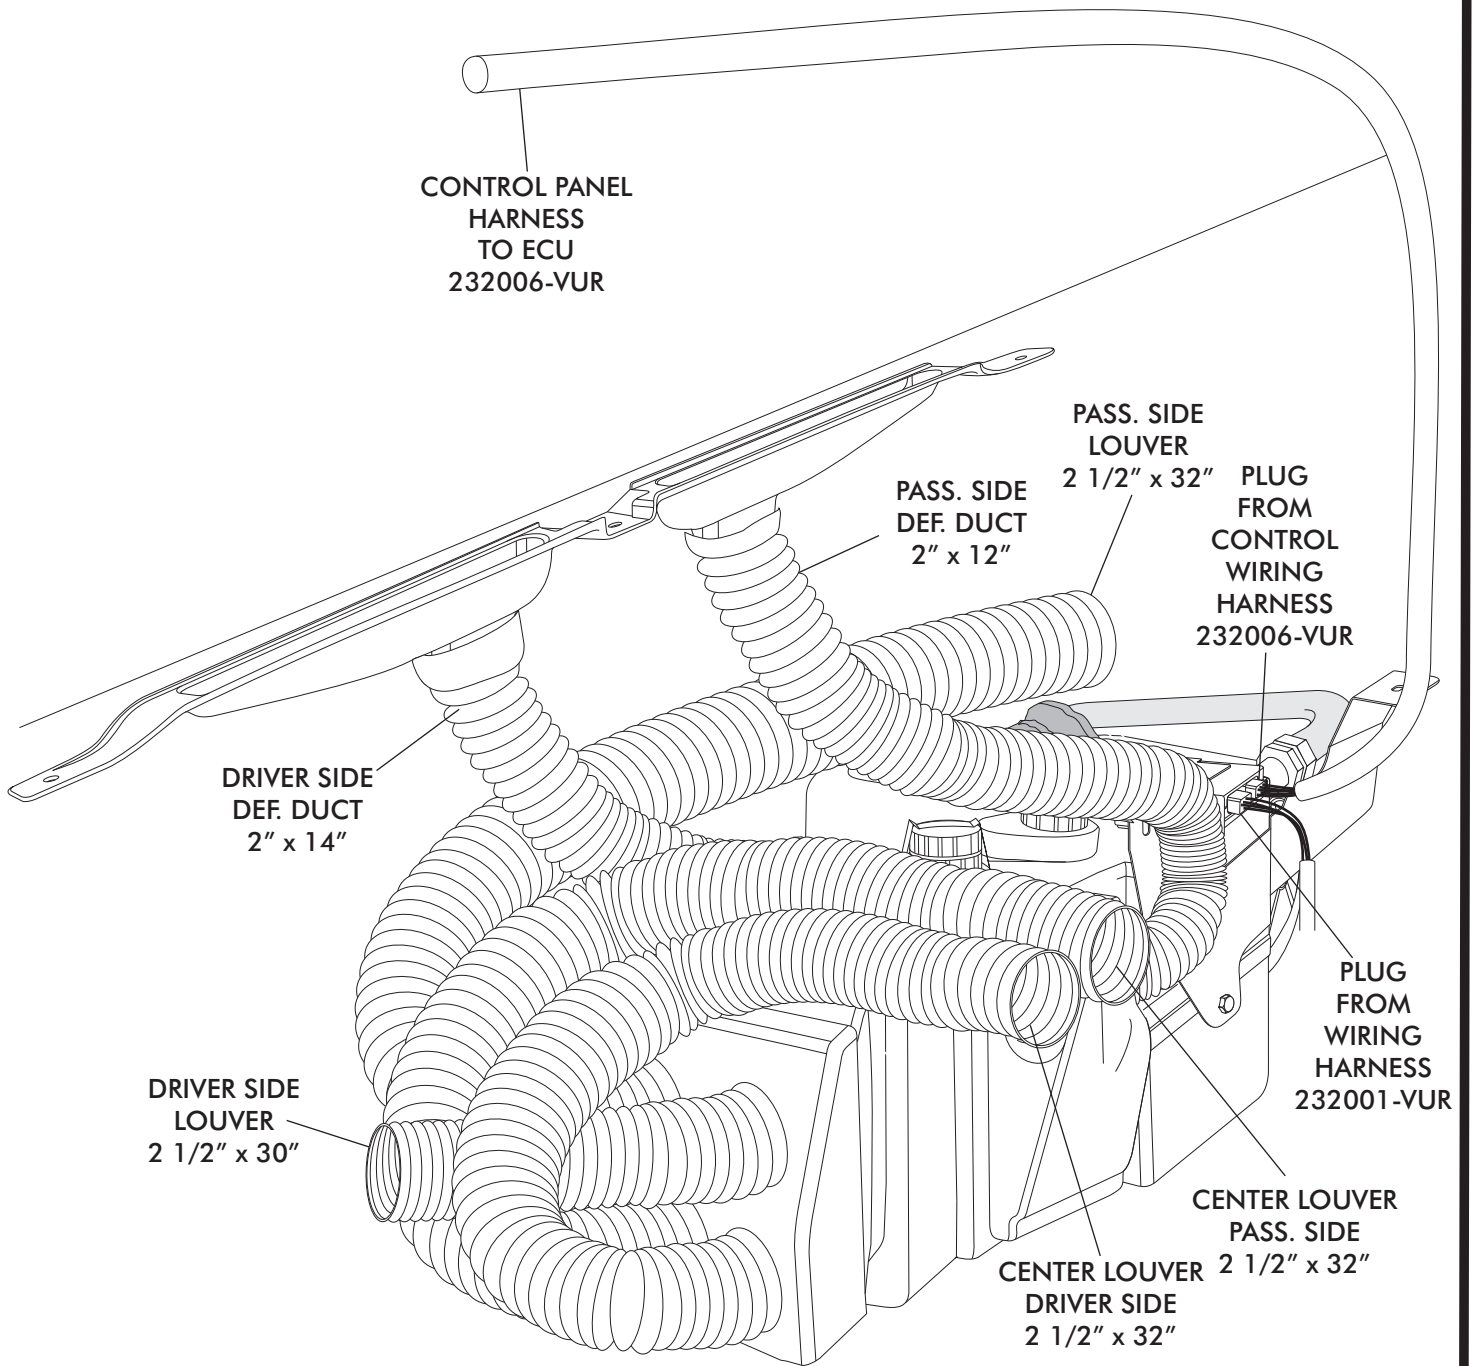

FIGURE 15
- INSTALL DUCT HOSES AS SHOWN IN FIGURE 15, PAGE 16
- PLUG THE WIRING HARNESS IN THE ECU MODULE ON SUB CASE AS SHOWN IN FIGURE 15, PAGE 16 (WIRE ACCORDING TO WIRING DIAGRAM ON PAGE 18 AND 19)